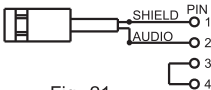

Fig. 21
1. 2-wire electret condenser microphone capsule connection. Fig. 21: